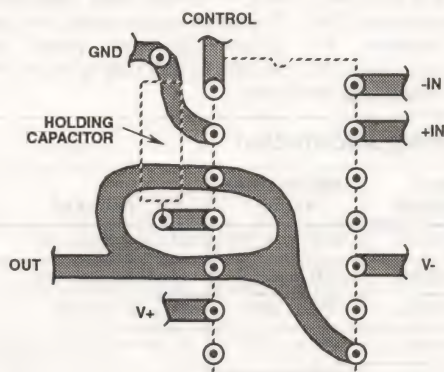

FIGURE 21. GUARD RING LAYOUT (BOTTOM VIEW)
- The method used to reduce leakage paths on the P.C. board and the device package is shown in Figure 21. This guard ring is recommended to minimize the drift during hold mode.